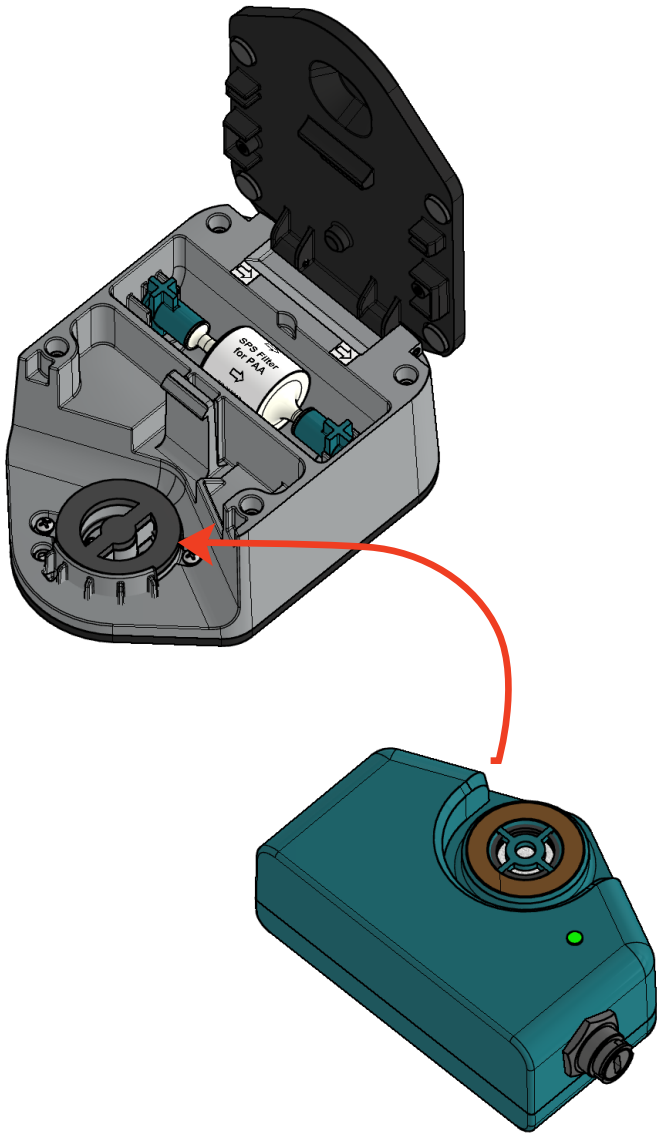

Figure 15A: Place E-Cell sensor opening against SPS the gasket inlet sensor chamber
- b. Place the E-Cell's sensor opening against the gasket in the sensor chamber inside the SPS, mating the contour of the E-Cell with the sensor chamber's shape. (See figure 15A)